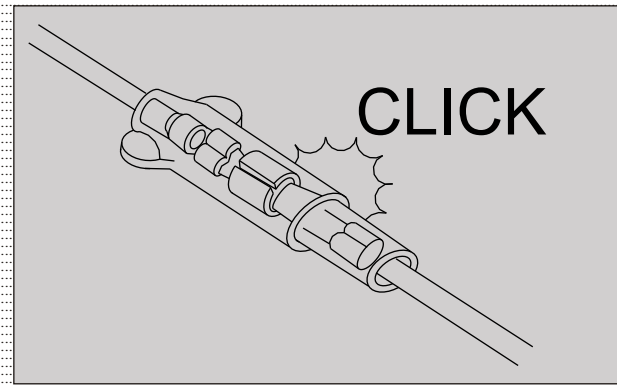

Fig. 5.1
- When connecting a connector, be sure to push it in until a click sound is heard. (Fig. 5.1)